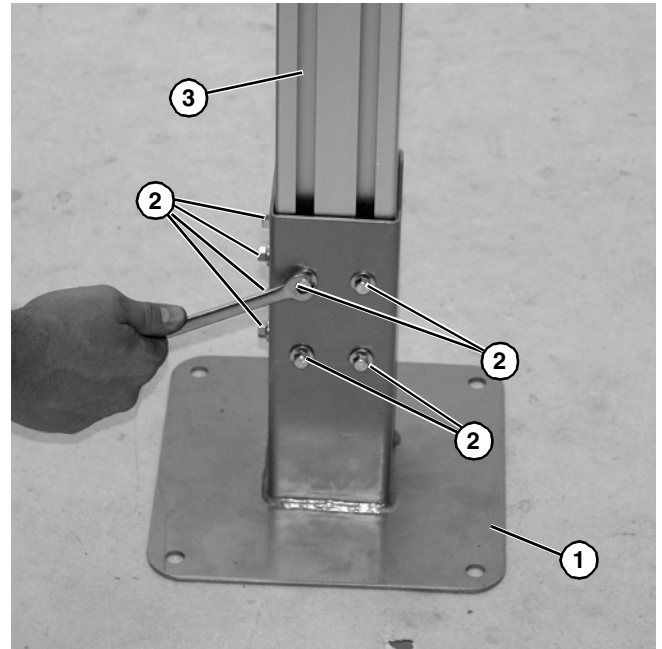

Figure 7
2. To adjust stand foot (Figure 7, item 1), loosen eight socket head screws (Figure 7, item 2) and adjust stand legs (Figure 7, item 3) up or down to the required height. If necessary, adjust height of each leg support until conveyor is level from side to side.
Failure to secure screws (Figure 7, item 2) may cause conveyor sections to drop down causing severe injury.
TIGHTEN SCREWS (Figure 7, item 2) **AFTER ADJUSTMENT.**
3. Tighten four flange socket head screws (Figure 7, item 2) to 24 ft-lb (33 N-m).